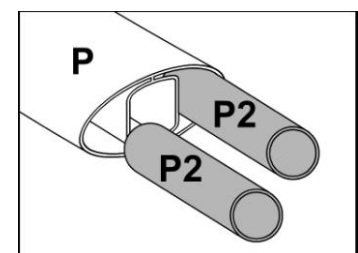

fig. 24
**11. INSTALLATION OF THE PLASTIC PROFILES (P)**
1- The plastic profiles (P) are linked together by the connecting pipes (P2). Take a profile and insert two connecting tubes (P2) by the end of the profile. Enter the tubes half way. Take another profile and press the 2 profiles together strongly (fig. 24)